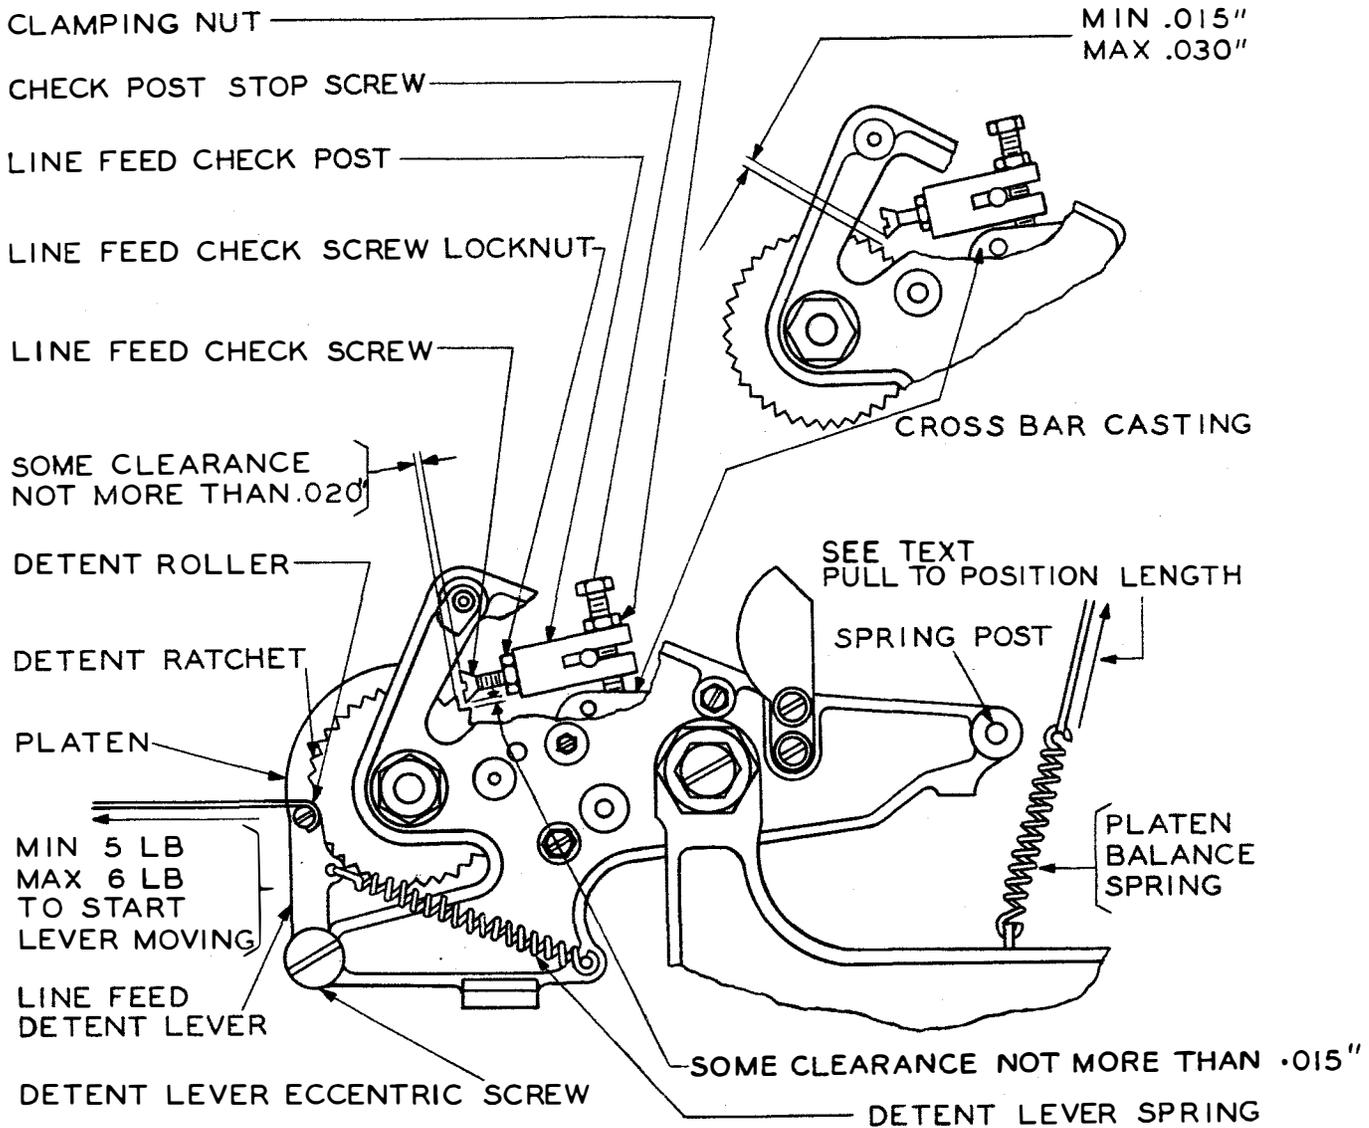

Figure 34
2. 60 Platen-balance-spring tension, measured when the platen is in the LTRS position, should be: (See Figure 34.)
To Adjust: Reposition the line-feed detent lever eccentric-screw to rotate the platen by means of the detent lever, keeping the eccentric head of the screw to the rear of the screw body. Check the adjustment on four ratchet teeth located 90 degrees apart. See Figure 34.
- 2.71 Line-feed Detent-lever Spring should have a tension of minimum 5 pounds, maximum 6 pounds. See Figure 34.
- 2.73 Line-feed Check-screw Head (for 33-tooth ratchet - Bell System) should enter the 12th notch ahead of the one in which the detent roller rests or 14th notch for 37-tooth ratchet - non-Bell System and the top of the screw head should clear the face of the tooth by not more than 0.020 inch when the check screw is held in the bottom of the notch. Check the adjustment on at least four ratchet teeth located 90 degrees apart. See Figure 34.
2.74 Line-feed Check-screw should clear the detent-ratchet teeth by minimum 0.015 inch, maximum 0.030 inch when the line-feed check-stop post is resting on the cross-bar casting. Check the adjustment on four ratchet teeth located 90 degrees apart. See Figure 34.
2.75 Line-feed Check-screw should clear the bottom of each notch on the detent ratchet by not more than 0.015 inch when (1) the Line-Feed combination is set up, (2) the mainshaft is rotated until the line-feed pawl has reached the end of its travel in feeding platen, (3) the line-feed check-lever is against the line-feed pawl lever, and (4) the play of check-lever shaft's right bearing is taken up to make this clearance a maximum. See Figures 34 and 35.